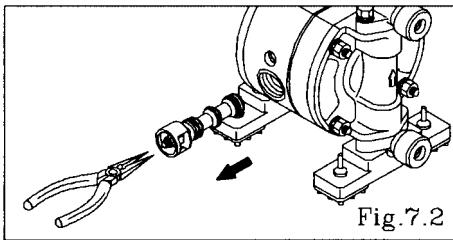

Fig.7.2
- Draw out the C-spool valve assembly using the pliers, and remove the seal ring from the C-spool valve assembly. [Fig.7.2]